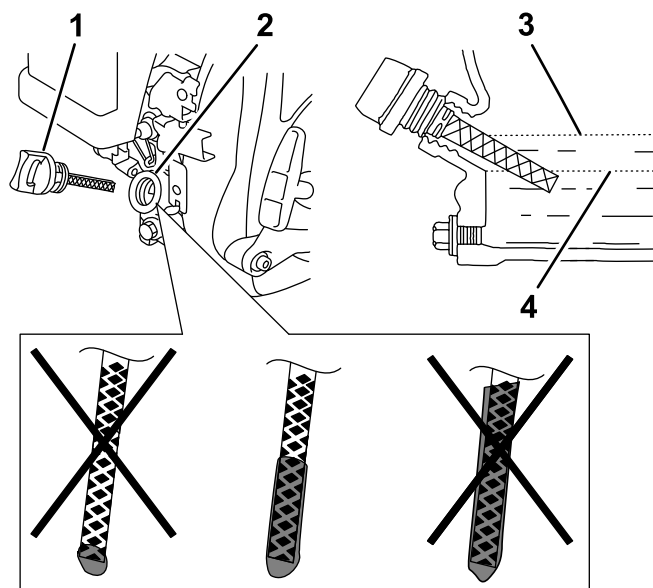

Figure 25
1. Remove the dipstick (Figure 25) and slowly pour oil into the fill hole until the oil reaches the upper-limit mark (bottom edge of the oil-fill hole) on the dipstick.